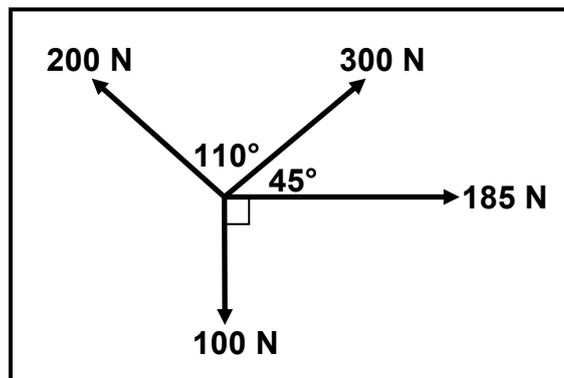

FIGURE 7.1
7.1 Four pulling forces of 100 N, 200 N, 300 N and 185 N are acting from the same acting point, as shown in FIGURE 7.1. Determine, by means of calculations, the magnitude and direction of the resultant of the system of forces in FIGURE 7.1.